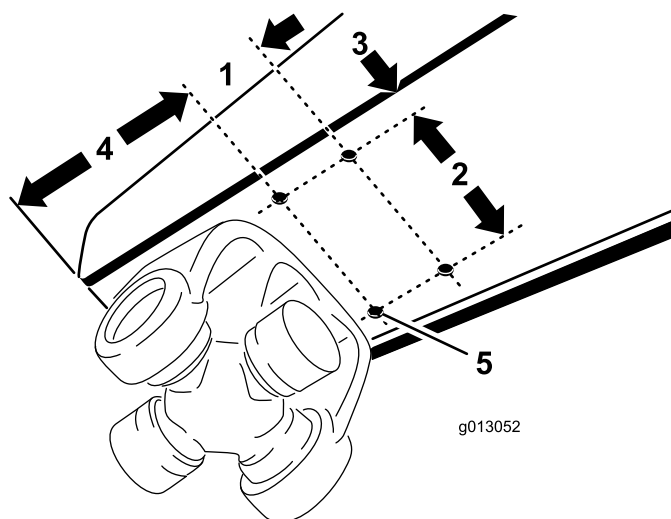

Figure 6
- Using the dimensions shown in Figure 6, locate, mark and drill (4) .259 ± .002 inch diameter holes in the side deck lift arm.